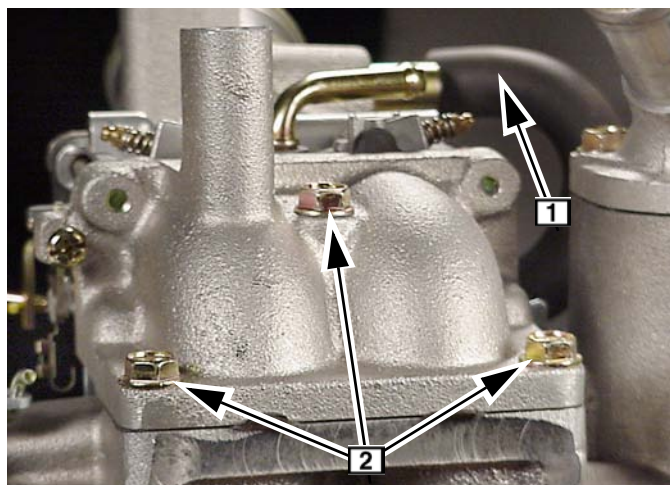

Fig. 46
- Disconnect breather tube at air cleaner elbow **1**, Fig. 46.